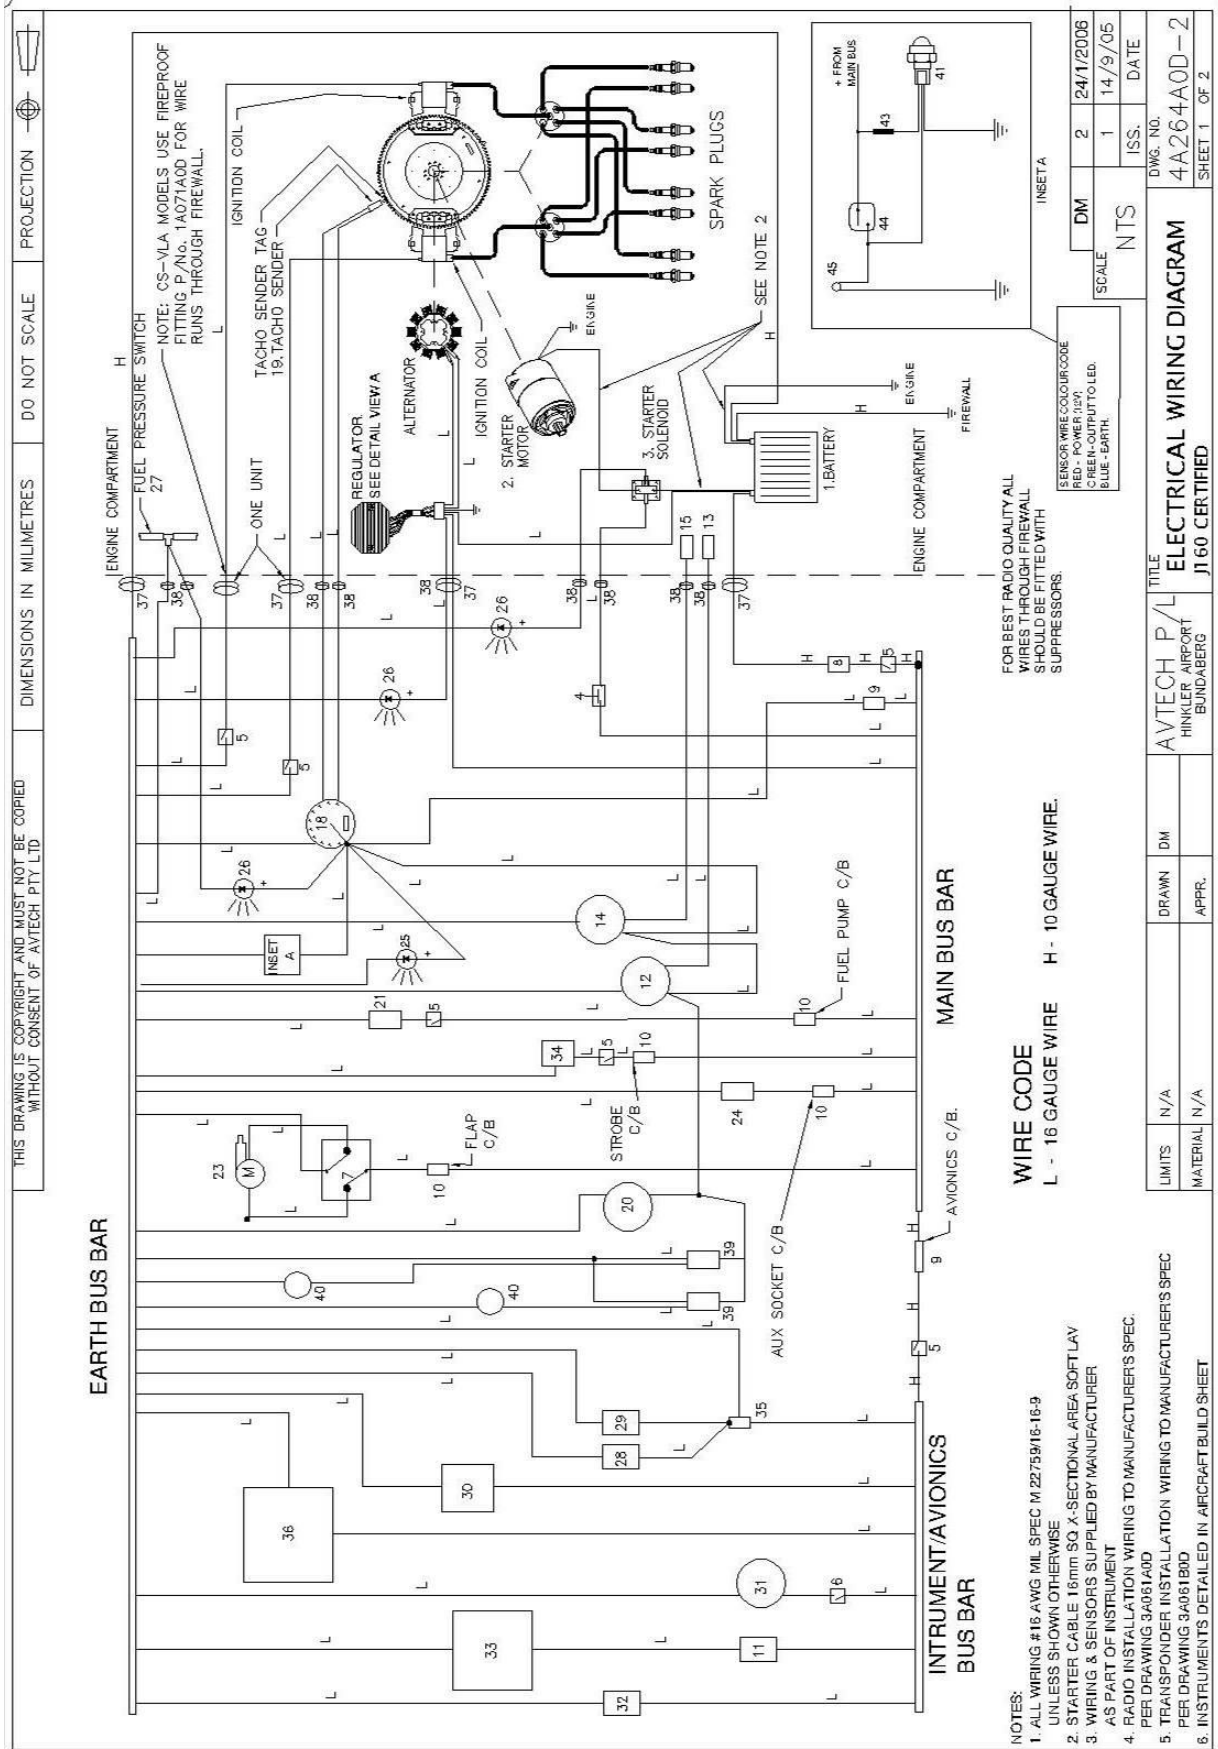

Figure 28. Wiring Diagram
- Wiring details are shown in Figure 28.
- General wiring information for the Tachometer is given in the Wiring Diagram, Figure 28. Detailed instructions on it's installation are supplied by the instrument manufacturer.
3.9 Radio Frequency (RF) Noise Reduction
- If the aircraft has a metallic firewall it can be used as a shield to block the majority of RF noise. To be most effective any wire that passes through the firewall should be fitted with a Ferrite Bead (also known as a Suppressor or RF Suppressor). Bundles of wires can have a single large Suppressor fitted rather than a Suppressor for each wire. The wiring diagram in Figure 28 shows suppressors in schematic form. These suppressors are readily available at local electronics stores.